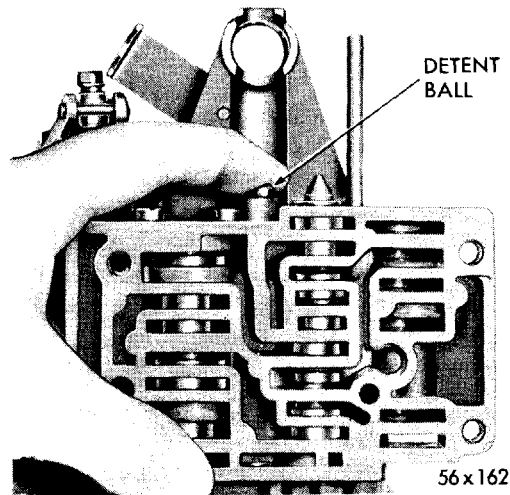

Fig. 49—Holding Manual Valve Lever Detent Ball
(1) Install reverse blocker valve and spring. Use new cotter pin.
(2) Place manual valve in its bore.
(3) Install shift valve. Install shift valve plug and tighten screws securely.
(4) Place manual valve lever detent spring and ball in valve body and hold in position, as shown in Figure 49. While holding the detent ball, position the manual